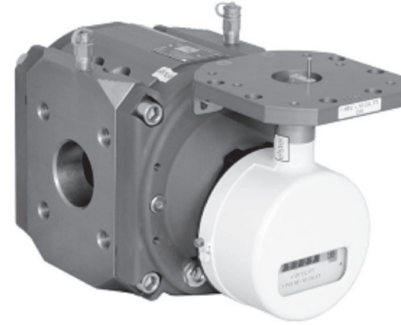

Figure 19. RABO with Instrument Drive
- (1) Lightly lubricate the blue or purple o-ring on the index base plate with silicone o-ring grease.
- (2) Place the ID index cover onto the index base plate while aligning the holes on the side of the index cover with the holes in the index base plate.
- (3) Install the brass index cover mounting screws which were removed in a previous step. Tighten the screws just until the screw head contacts the cover, then back the screw out until the seal wire holes align.
- xii) Attach the support bracket to the accessory mount holes in the meter case cover [Figure 19, 26].
- (1) The ID can be attached to a meter installed for horizontal or vertical flow. Use the appropriate accessory mount holes.